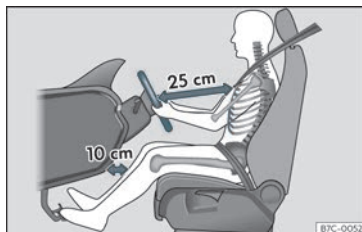

Fig. 1 The correct distance between the driver and the steering wheel must be at least 25 cm (10 inches).
- Move the steering wheel so it is at least 25 cm (10 inches) away from the steering wheel »» Fig. 1 and you can hold it with both hands on both sides, on the outer part, with your arms slightly bent.
- Move the seat in such a way that you can step on the pedals with your knees slightly bent and with a distance between the knees and the dashboard of at least 10 cm (4 inches) »» Fig. 1.